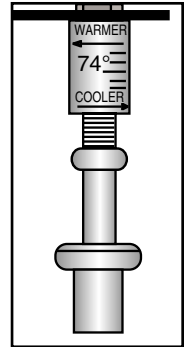

Figure 5
The diffuser is shipped with a factory room temperature setpoints of approximately 74° F. To reduce the room temperature setpoint, turn the actuator clockwise (CW). Conversely, turn the actuator counter-clockwise (CCW) to increase the room temperature setpoint. You can determine the room temperature setpoint by aligning the end of the actuator with the indicators on the temperature scale (figure 5). Each full rotation or each indicator on the temperature scale equals $\pm 2^\circ$ F. For a 74° F degree setpoint, turn the actuator fully clockwise until it stops, then turn counter-clockwise 3 full turns.